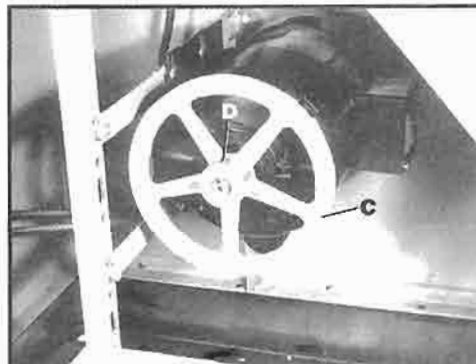

Fig. 10
To assemble the motor pulley, remove the back panel of the jointer stand. Assemble motor pulley (C) Fig. 10, to the motor shaft with the hub of the pulley in the out position as shown. Tighten set screw (D) against the key in the motor shaft.